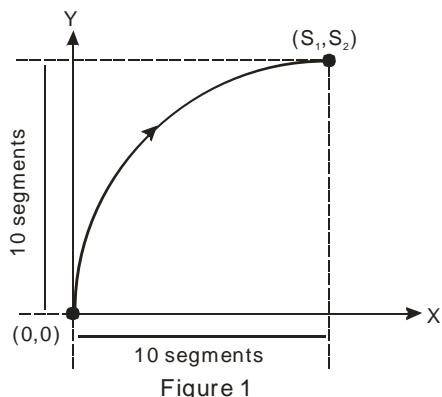
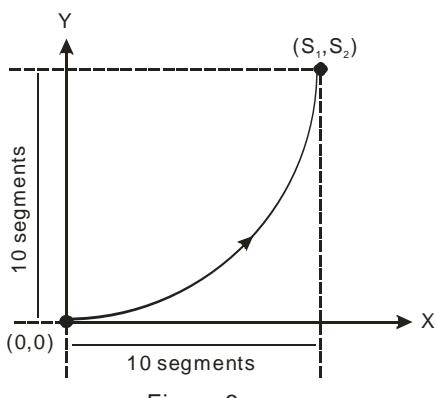
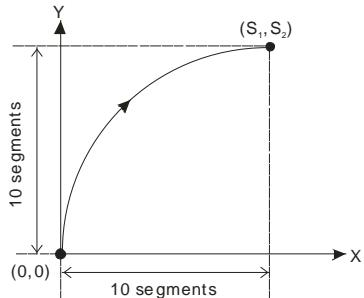

Figure 1
Figure 3
Figure 1
- The lower 16 bits of **S** (settings of direction and resolution): K0 refers to clockwise 10-segment (average resolution) output; K2 refers to clockwise 20-segment (higher resolution) output and a 90° arc can be drawn (see figure 1 and 2). K1 refers to counterclockwise 10-segment (average resolution) output; K3 refers to counterclockwise 20-segment (higher resolution) output and a 90° arc can be drawn (see figure 3 and 4).